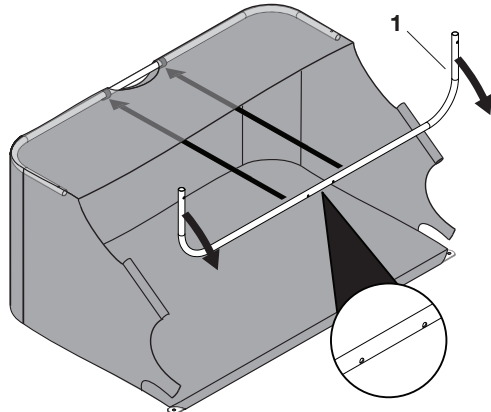

Figure 12
STEP 12: (SEE FIGURE 12)
- Insert a rear hopper tube (1) into the hopper bag.